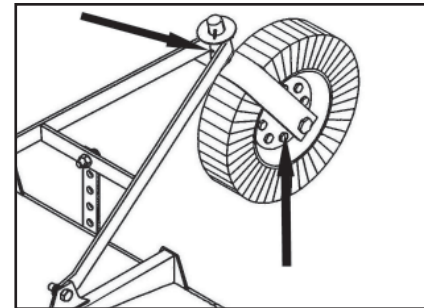

Figure M-1 Grease Points
- Tailwheel, wheel fork (See Figure M-1)
- Tailwheel fork (See Figure M-1)